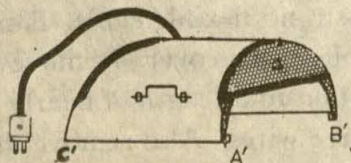

FIG. 2.4.16
18. Cut the 1 cm wide margin at 3 or 4 points and bend it over the curved edge. Rivet these covers to either side. Fig. 2.4.16